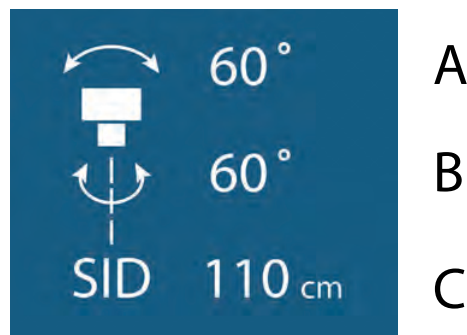

Fig. 3-6 Position information
- C. Source Image Distance (SID), or Height to floor (H) in Free or Auto Position Mode (cm/inch)
The height to floor (H) is shown in *Free mode* and *Auto position mode*. In all other modes the source image distance (SID) is shown. The unit for the distance can be either cm or inch, and is set in the *Setting menu* (Fig. 3-6 Position information).